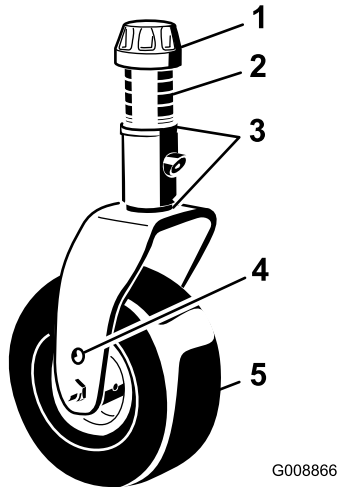
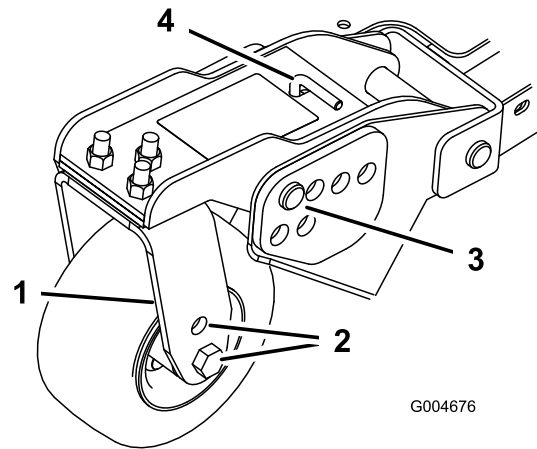
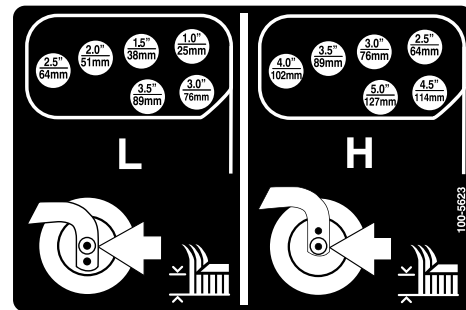

Figure 18
Figure 20
Figure 21
1. Position the caster-wheel axles in the same holes in all of the caster forks (Figure 18 and Figure 20).
2. Remove the tensioning cap from the spindle shaft and slide the spindle out of the caster arm (Figure 18).
5. Remove the hairpin cotter and clevis pins from the caster-pivot arms (Figure 20).
6. Rotate the tension rod to raise or lower the pivot arm until the holes are aligned with the selected height-of-cut bracket holes in the mower-deck frame (Figure 20 and Figure 21).